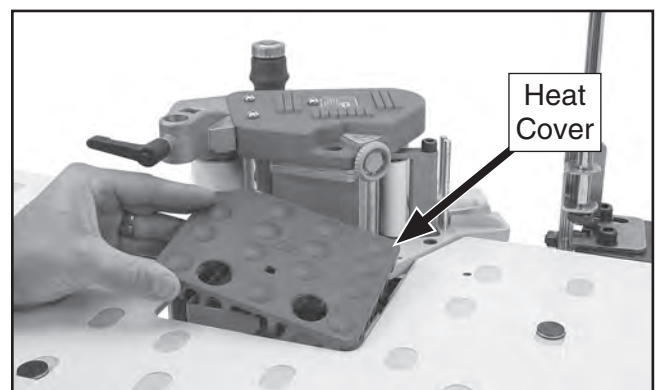

Figure 14. Inserting heat cover into table.
2. Insert protective heat cover (see **Figure 14**) over glue pot access.